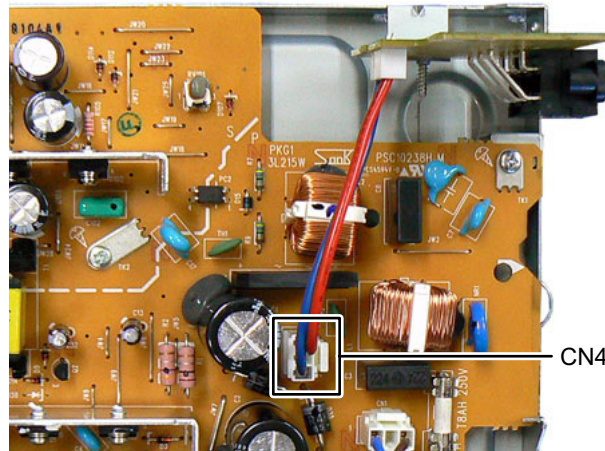

Fig.13
3.1.7 Removing the Voltage selector board (See fig.13, 14)
- (1) Disconnect the connector wire from Voltage selector board connected to connector **CN4** of the Power board. (See Fig.13)
- (3) Remove the two screws **K** attaching the shaft guide from top side. (See Fig.13)
When attach the tray assembly, boss of loading sub assembly should attach to guide of bottom side at tray assembly. (See Fig.13)